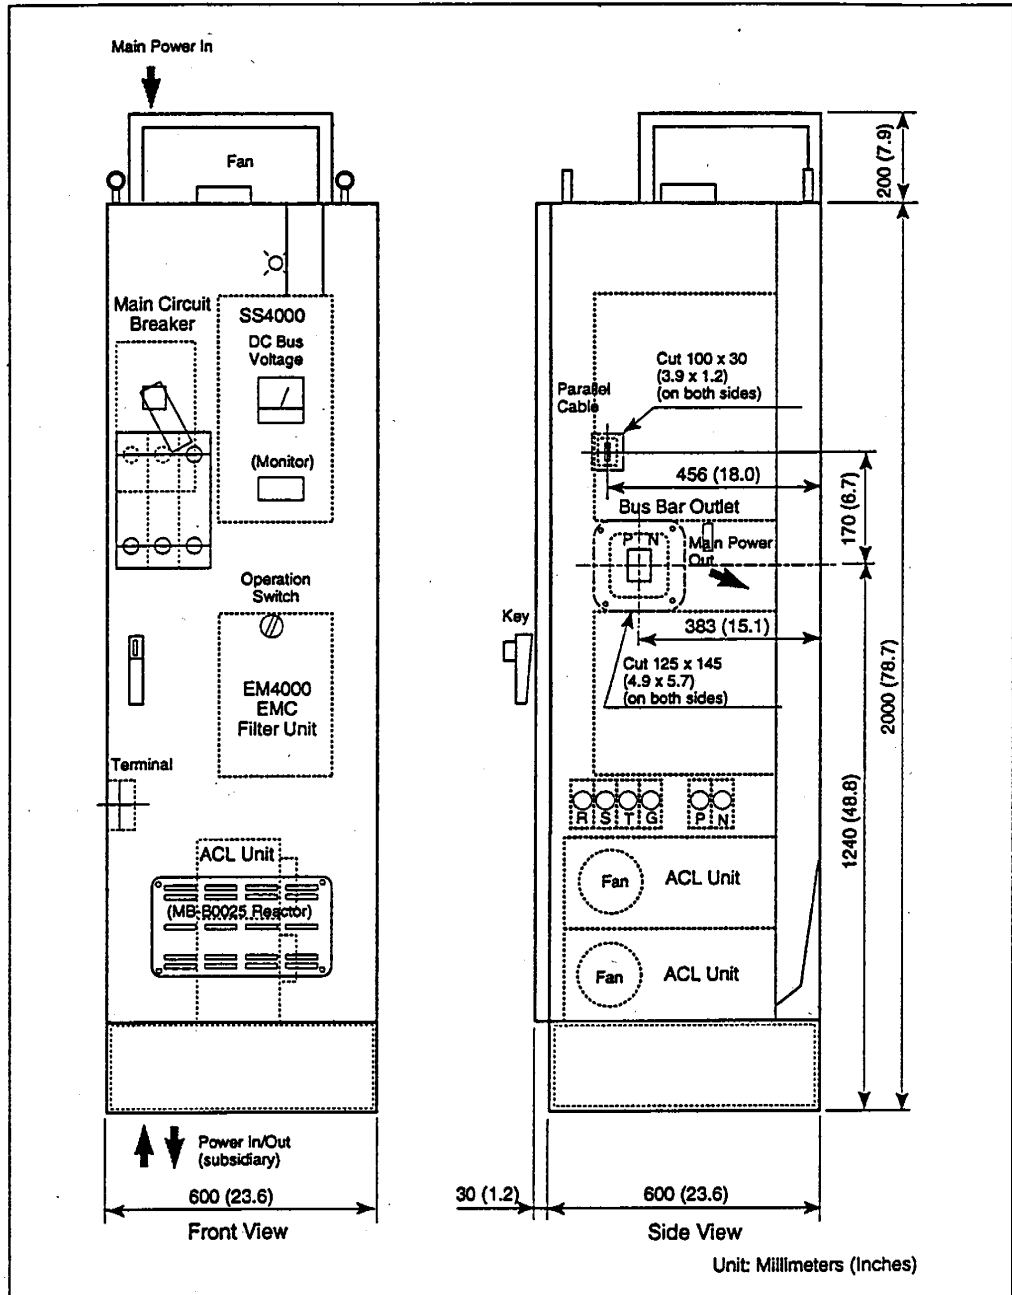

Figure 11.9 – Dimensional Outline Drawing of Model S241B and S2265 Cabinets
- Size: 600 millimeters (23.6 inches) width x 630 millimeters (24.8 inches) depth x 2200 millimeters (86.6 inches) height (See Figure 11.9.)
Figure 11.9 shows the outline dimensions of Model S241B and S2265 Cabinets.